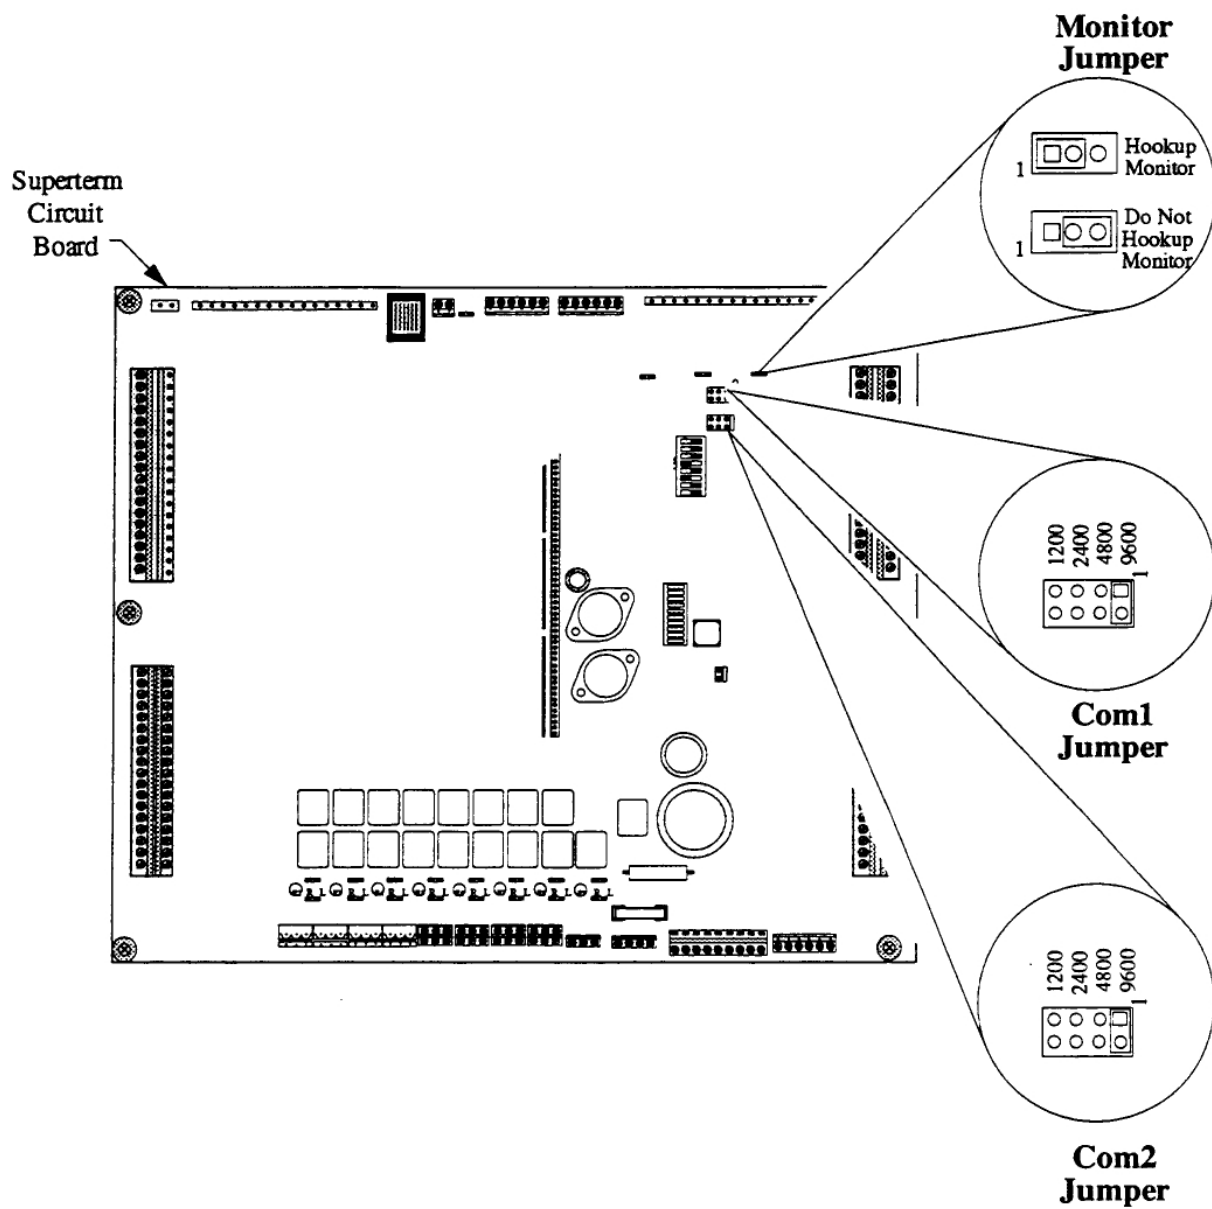

Figure 47 - COM1, COM2, and MONITOR Jumper Locations and Settings
- Set the **COM1** jumper to contact the two posts adjacent to the desired baud rate (see Figure 47).
Set the **COM2** jumper to contact the two posts adjacent to the desired baud rate (see Figure 47).
- Set the jumper to contact the center post (pin 2) and the lefthand post (pin 1) (see Figure 47).
- Set the jumper to contact the center post (pin 2) and the right-hand post (pin 3) (see Figure 47).